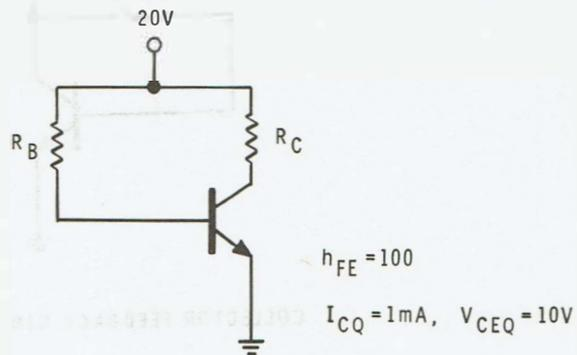

Figure 2-20
Refer to Figure 2-20 for questions 11 through 13.
LOAD LINE FOR THE CIRCUIT IN FIGURE 2-20
- A. Load line for the circuit in Figure 2-20.